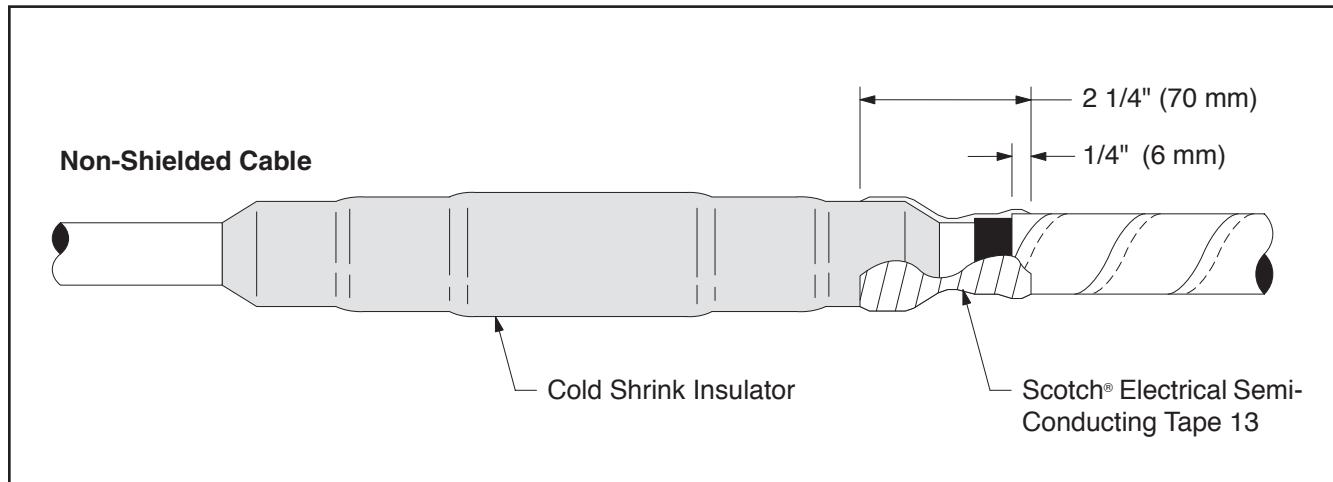

Figure 14
- a. Starting $1/4"$ (6 mm) from cable's metallic shielding (i.e., tape, wire or UniShield[®]), apply 2 half-lapped layers of Scotch[®] Electrical Semi-Conducting Tape 13 over the end of the cold shrink insulator for a total wrapped distance of $2\frac{1}{4}"$ (70 mm) (Figure 14).